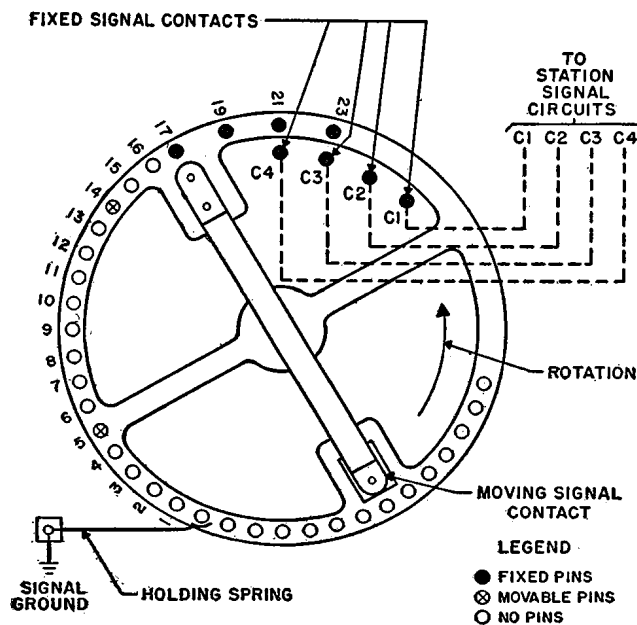

Fig. 6 — 60-type Selector Wheel
3.01 As shown in Fig. 6, the selector wheel is equipped with four fixed pins assigned to Positions 17, 19, 21, and 23, and two movable pins assigned between Positions 2 and 15. The normal position of the selector wheel is defined as the position of the moving signal contact when it is 17 counterclockwise steps away from fixed contact C1.
3.03 Assume that the selecting codes assigned to the selector wheel shown in Fig. 6 are 593, 595, 597, and 599. This would necessitate the two movable pins being placed in positions 5 and 14 by the installer. When one of these codes is dialed, the selector wheel rotates counterclockwise 5 steps for the first digit where the holding spring engages the first movable pin. The wheel then advances 9 steps when the second digit is dialed with the holding spring engaging the second movable pin. The dialing of the last digit will advance the wheel either 3, 5, 7, or 9 steps depending on the code dialed with the holding spring engaging either the 17, 19, 21, or 23 pin. This places the